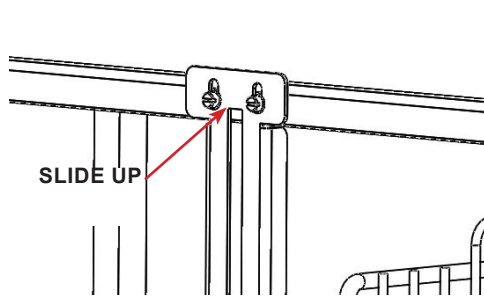

FIGURE 3.16 - Latch Top Keyhole Slot
STEP 2: Lift the center latch bar upward to clear the keyhole slots located at the top of the center latch bar. See FIGURE 3.16